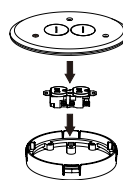
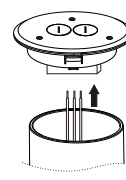

Fig. 10
Fig. 11
8. Attach cover assembly (see approved covers below) to leveling ring (part # LRA-U provided when FBLEW is purchased) using screws provided with that cover. Affix wiring in the box to the device (not provided.). (Fig. 10 & Fig.11)